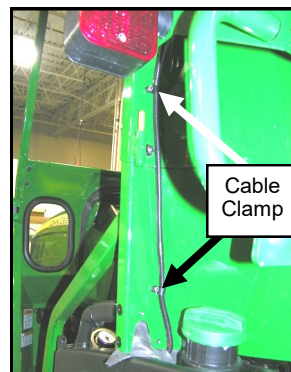

Fig. 18.5 (Secure Fender Light Wires)
18.5 See fig. 18.5. Plug the light extension harness into the light. Secure the harness to the back of the rear leg with plastic P-clamps, screw heads inside with nuts outside.